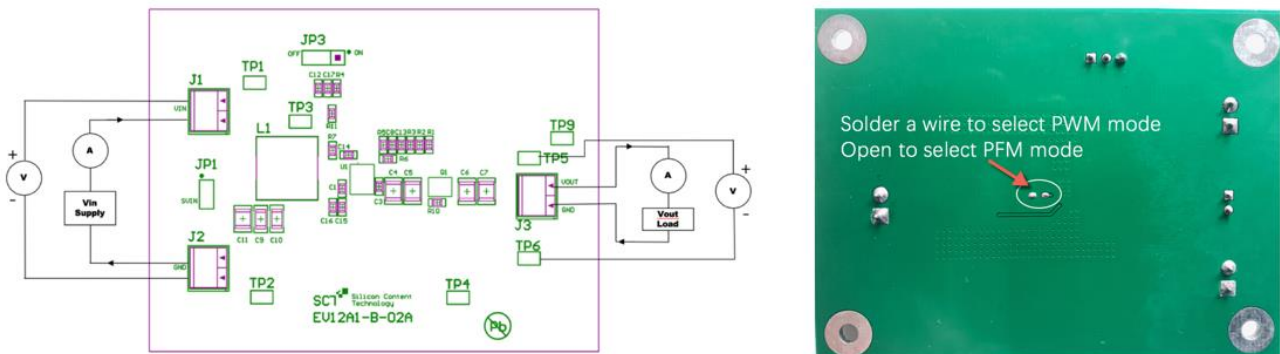

Figure 1. Proper Supply, Load and Measurement Equipment Setup
Evaluation board EV12A1-B-02A is easy to set up to evaluate the performance of the SCT12A1. Refer to Figure 1 for proper measurement equipment setup and follow the procedure below:
- Mode selection. There are two soldering points (See Figure 1) on bottom of EVM. Solder a wire to set PWM mode. Default open to select PFM